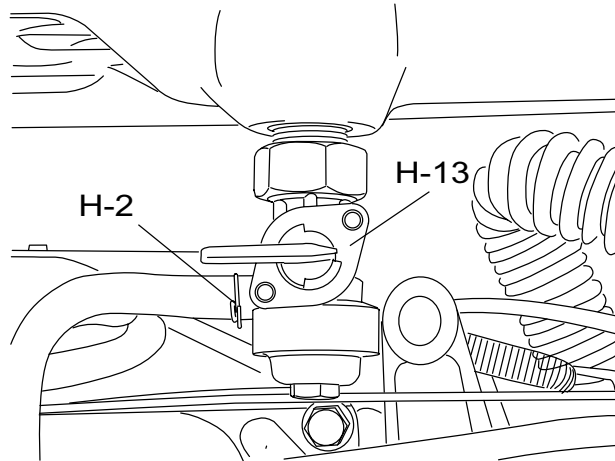

Figure 25: Fuel Shutoff Valve (Shown in CLOSED Position)
(1) Draining the Fuel Tank
- (b) If the engine can be started, start the engine and close the fuel tank shutoff valve (H-13) (refer to Figure 25). Let the engine operate until it is starved of fuel and stops. By doing so, residual fuel in the fuel lines and carburetor will be reduced to a minimum.